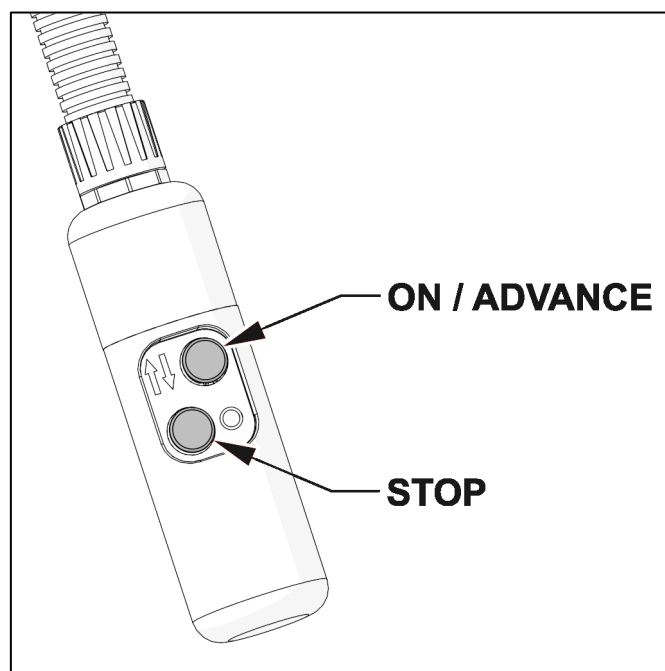

Figure 6.2: Control Pendant Operation
2. Turn the pump ON by pressing the 'advance button' once. (See figure 6.2)
(See figure 6.2)
6. Turn the pump off by pressing the 'Stop' button on the control pendant. (See figure 6.2)